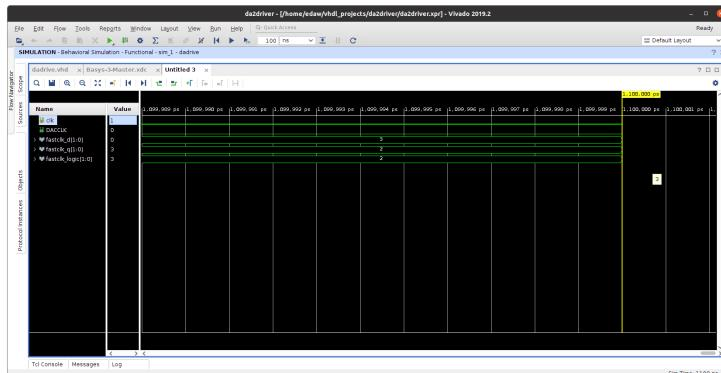

Figure G.3: Simulation results before rescaling
To run the simulation for, say, 200ns, go to the box in the middle of the top of the Vivado window, where the time 100 ns is the default, and change to 200, leaving the ns as it is. Now, immediately to the left of the 200, there is a small arrow to the right with a (T) under it. This is a timed simulation. Click on this arrow once. The simulator output should resemble Figure G.3. It doesn't look very interesting because the display shows only the last 10ps of the simulation. You will need to zoom out using the magnifying glass with a minus sign icon in the top left of the simulation pane. You can also use the horizontal scroll bar below the simulation output pane to position the piece of the simulation you are interested in appropriately. Note that the simulation tool by default does nothing until 1000 ns, displayed as 1,000,000 ps, so if you only ran the simulation once the time period you are interested in is between 1,000,000 ps and 1,200,000 ps. Click on the > to the left of the signal for the output of the clock storage register so you can see the display of the binary bits of the clock as well as the decimal value.